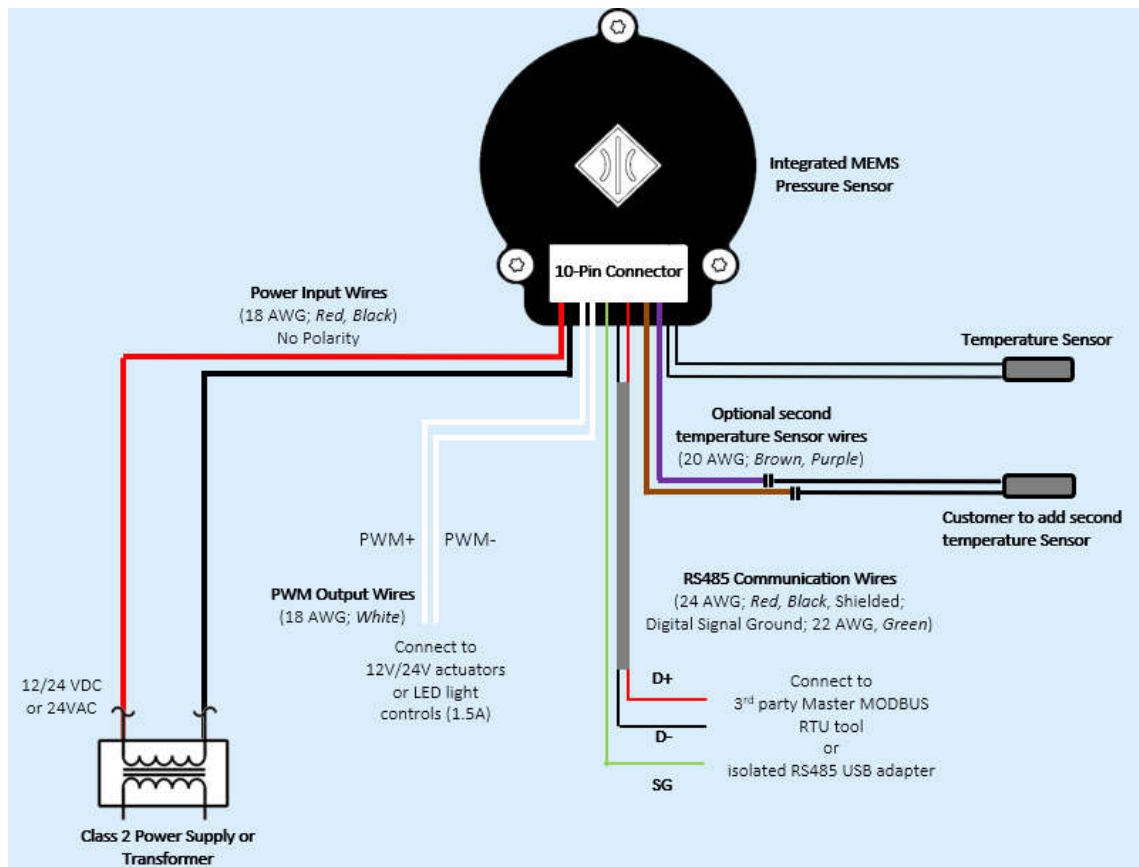

Figure 3-1: DPTS wiring diagram using WH-USHX-AX wiring harness
3. The power input wires (18 AWG red/black wires) on the wiring harness should be connected to the power source as shown below in **Figure 3-1**.